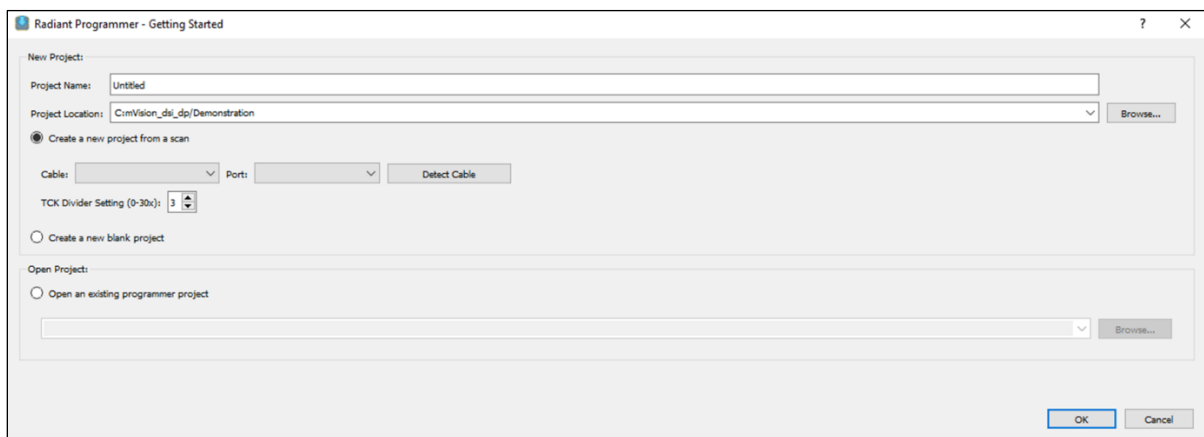

Figure 4.6. Creating a New Project from a Scan
1. Create a new project using the Lattice Radiant Programmer software. In the **Getting Started** dialog box, input the **Project Name** and **Location** as shown in Figure 4.6.